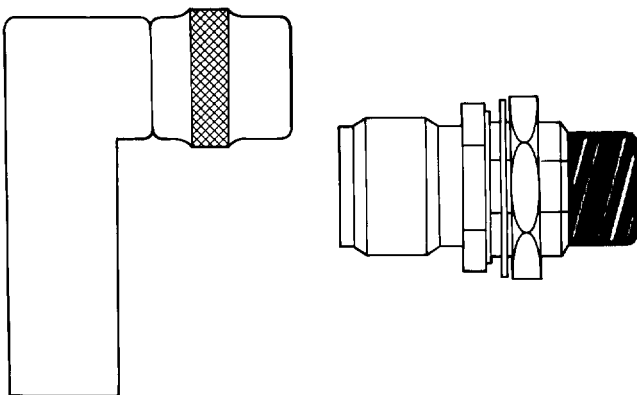

Figure 21. Typical QSC Series Connector
54. **Series QSC Connectors.** These connectors are large, threaded coupling connectors. These connectors operate to 11,000 MHz and to 1500 volt (Figure 21).